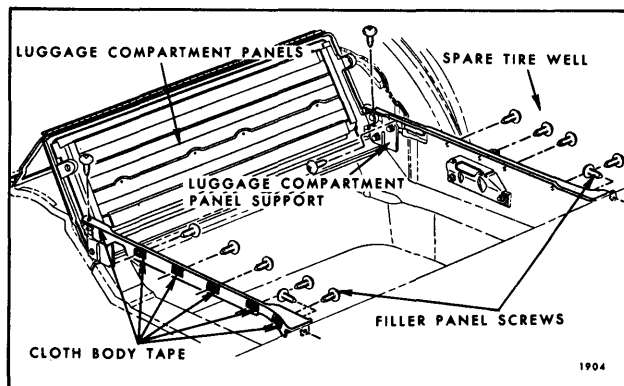

Fig. 15-55—Rear Compartment Pan Side Filler Panels
1. On "35" Styles, use handle and fold rear luggage compartment panel forward until it is resting entirely on front luggage compartment panel (Fig. 15-55).
5. Along inboard and outboard side facing of right and/or left panel, remove screws which secure panel to panel supports (Fig. 15-55) and remove panel(s) from body.
6. To install, reverse removal procedure. If installing new filler panel, apply cloth body tape over all screw attaching holes. (See Fig. 15-55).
2. Fold combined front and rear luggage compartment panels to "up" or half open position. (See Fig. 15-55).